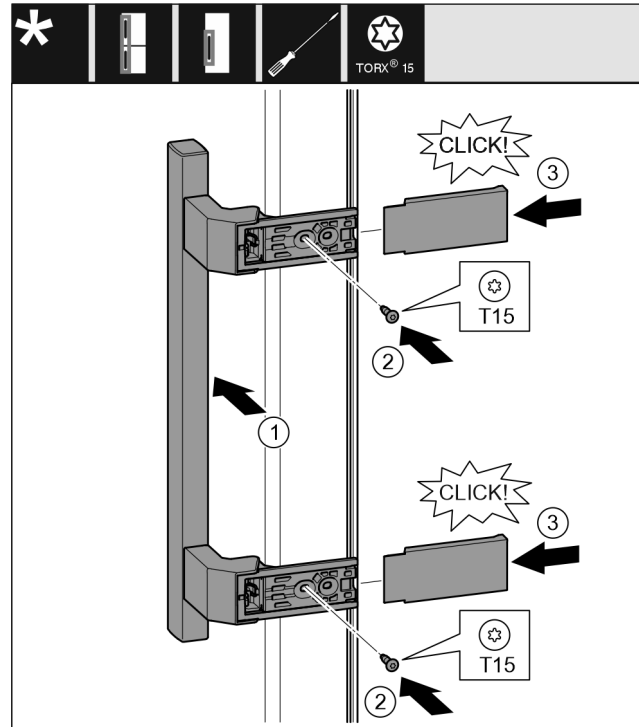

Fig. 20
- ▶ Position the handle on the opposite side. Fig. 20 (1)
- ▶ The screw holes must be exactly above each other. Fig. 20 (2)
- ▶ Tighten the screws using the T15 screwdriver. Fig. 20 (2)
- ▶ Position the covers on the side and push them on. Fig. 20 (3)